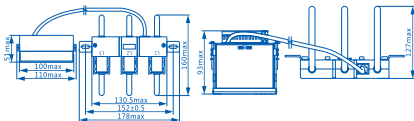

Figure 4 Outline and Installation Size of the Protector with Rated Current of 400A, 800A
3.3 Outline and installation size of the protector with rated current of 400A, 800A: see Figure 4, unit: mm.